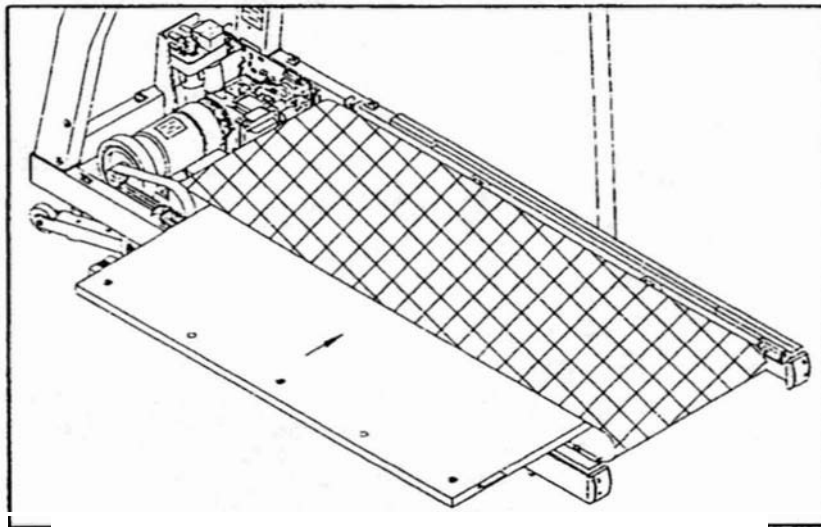

Fig. 16
3. Slide the running deck back into place. (see Fig. 16)